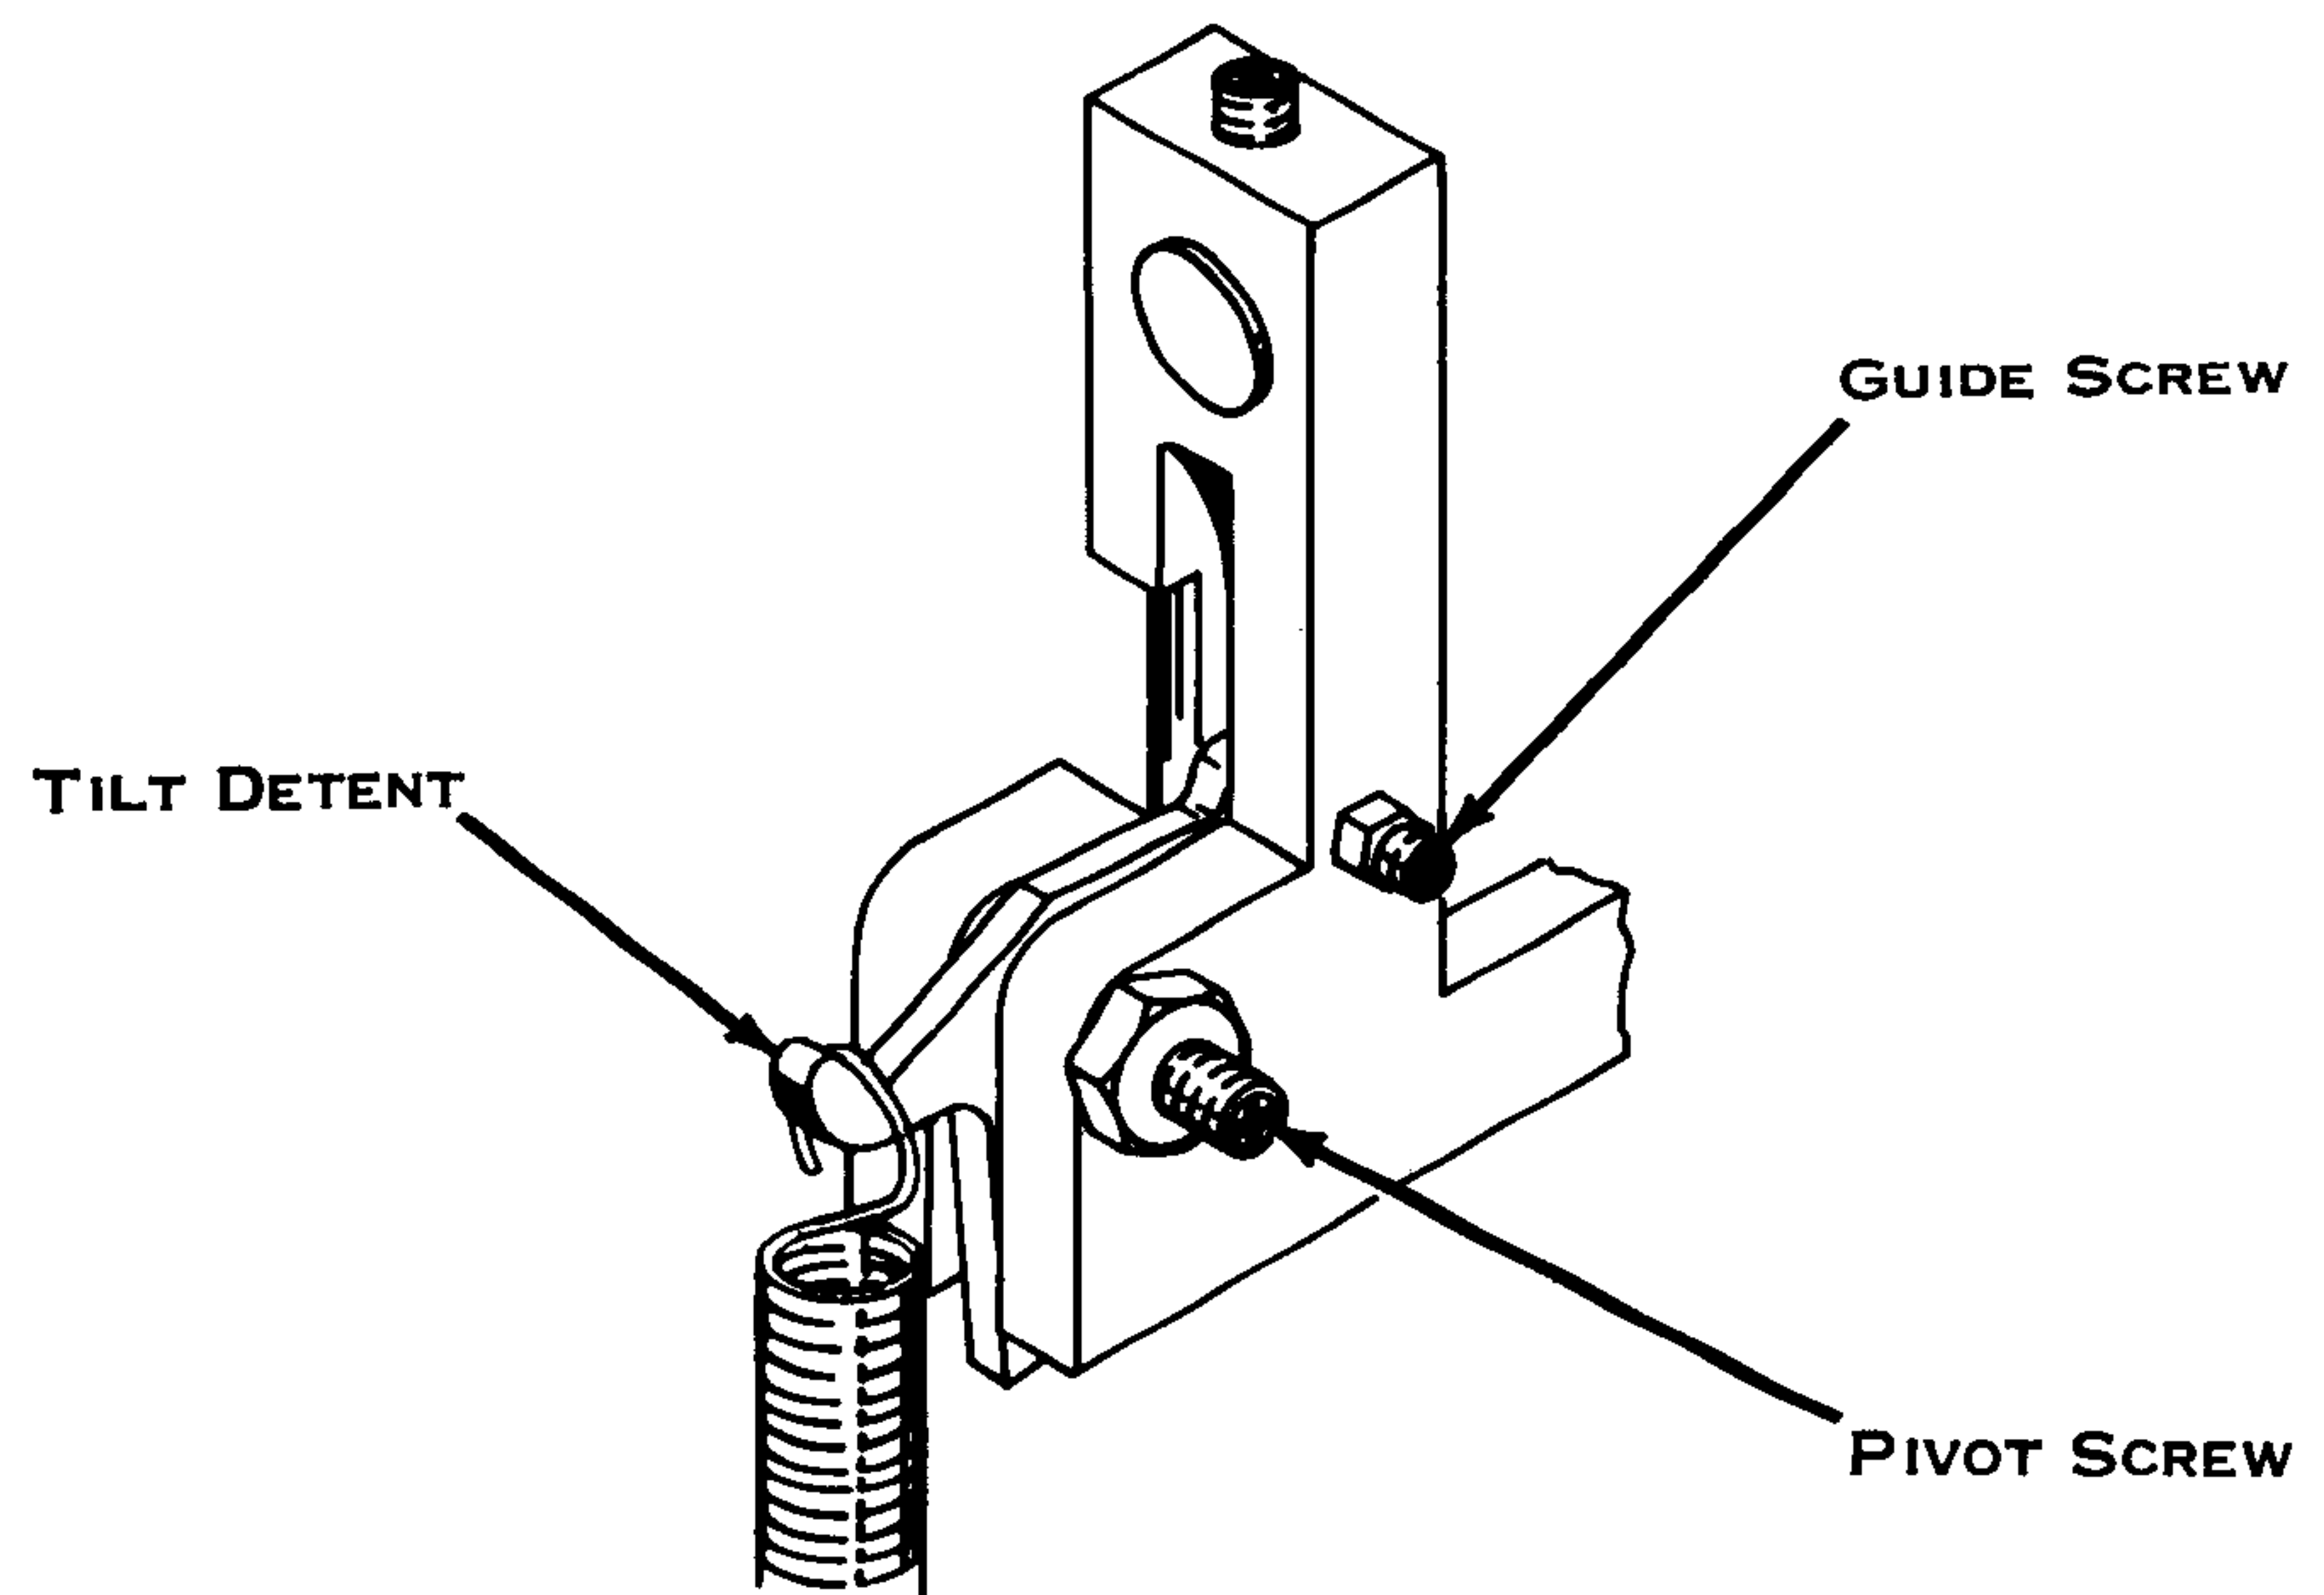

Figure 63. Tilt Detent Adjustment
5. Tilt Detent (Fig. 63) - Adjust the guide and pivot screws so that the tilt detent operates freely with minimum of front to rear play.